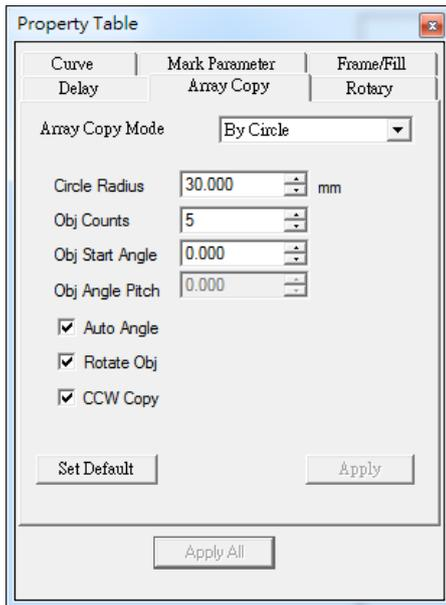
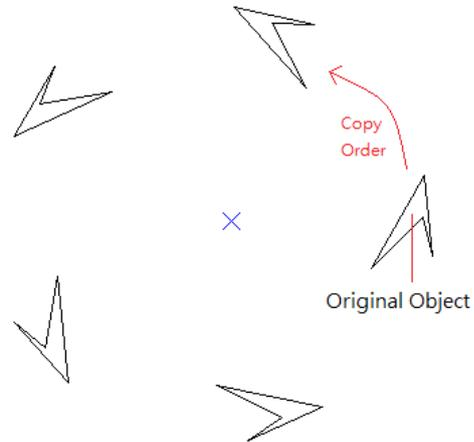
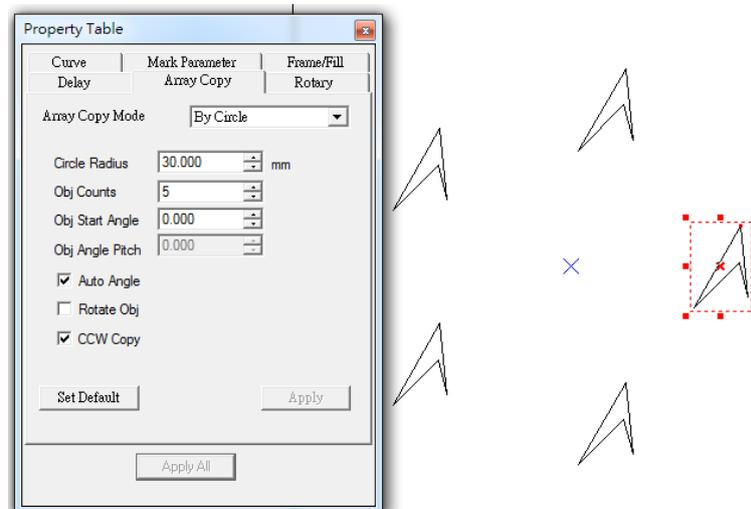

Fig. 3.2.15
Fig. 3.2.16
Fig. 3.2.17
The Property Table of this mode shows like Fig.3.2.15, and Fig.3.2.16 is the result under this mode.
**Rotate Object:** Decide to rotate the object or not. Fig.3.2.16 uses this function, but Fig.3.2.17 doesn't.